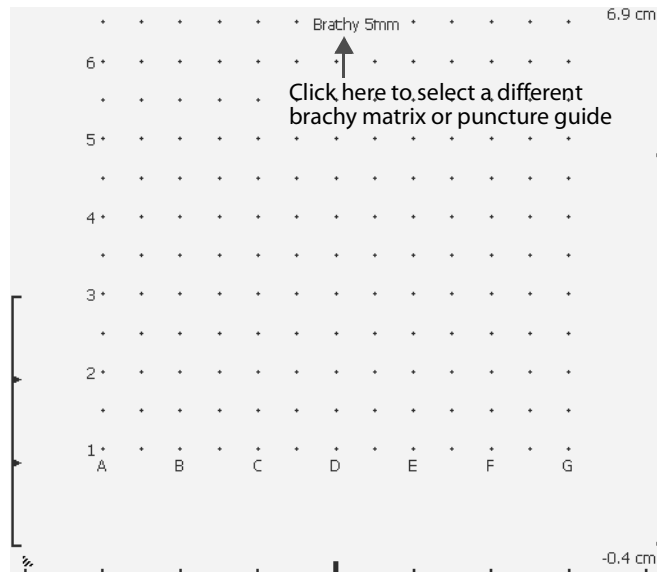

Figure 8-4. A brachy matrix on the image area.
**NOTE:** *It is important to verify that you are using the correct puncture guide. The number of the guide is displayed at the top of the image (see Fig 8-4). Make sure the number corresponds to the guide you are using. If it doesn't, click the number on the monitor to select the proper needle guide.*